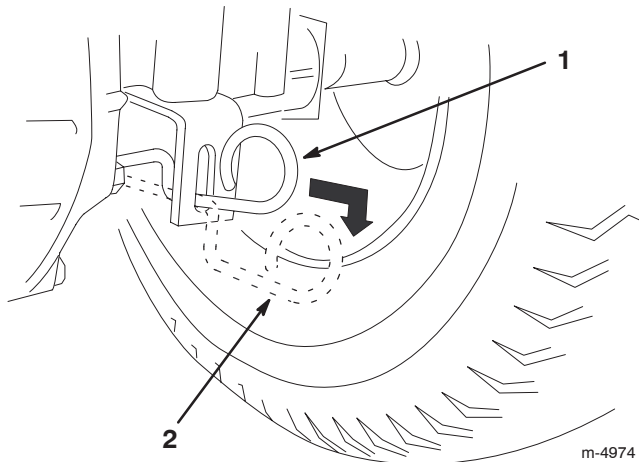

Figure 8
2. Place the drive control in the Push position (Fig. 8).
4. Place the drive control in the Operate position (Fig. 8) and drive the tractor forward about 5 feet (1.5 m), then reverse for about 5 feet (1.5 m). Repeat this step 3 times.